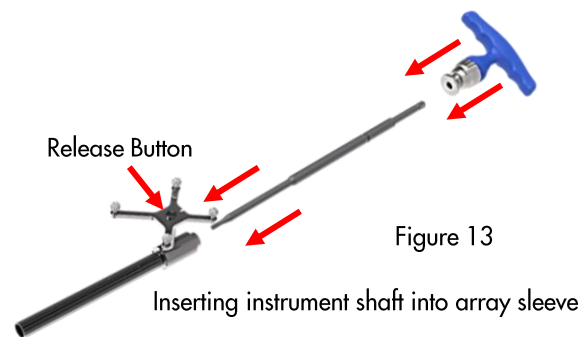

Figure 13
- Press the Release button on the Driver Array Sleeve and insert the Simulated Driver Shaft (P/N 75-SD-0700) into the Driver Array Sleeve until it “clicks” into place (Figure 13). Gently pull up on the Simulated Driver Shaft to confirm that it is locked in the Array Sleeve.